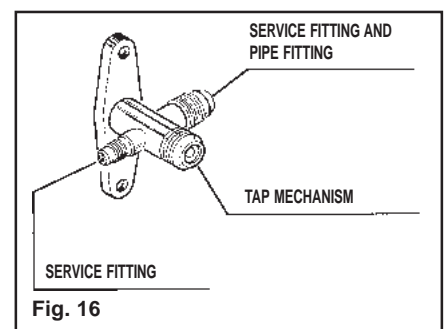

Fig. 16
- i) Once the attachments have been tightened, the lines seal must be tested. In order to test the seal a cylinder of anhydrous nitrogen is connected to the external unit's gas pipe service connection (fig. 16) (it is connected to the service connections in the case of the Multisplit external units) by means of a flexible with a 1/4" attachment and a pressure reducer.
- By means of a flexible with a 1/4 attachment connect a header gauge to the external unit's gas line service connection (after unscrewing the cap). See fig. 16 for the connection modes. Activate the vacuum pump and leave it running for at least 2 hours.